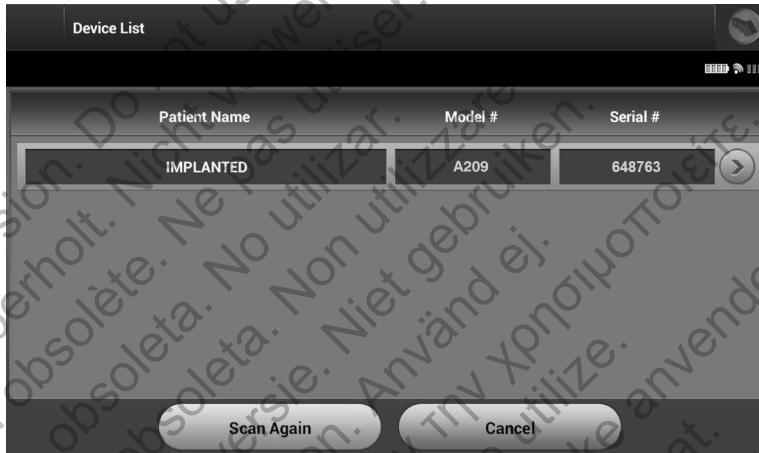

Figure 16: Device List screen (scrollable list)
- When the scanning process is complete, a list of all pulse generators detected (up to 16) will be displayed on the Device List screen (Figure 16). The devices that are in Shelf mode will be displayed as “Not Implanted.” Any devices that were previously taken out of Shelf mode are displayed either as “Implanted” or with the stored patient name.
Select the desired pulse generator from the Device List screen (Figure 16) to initiate the communication session.